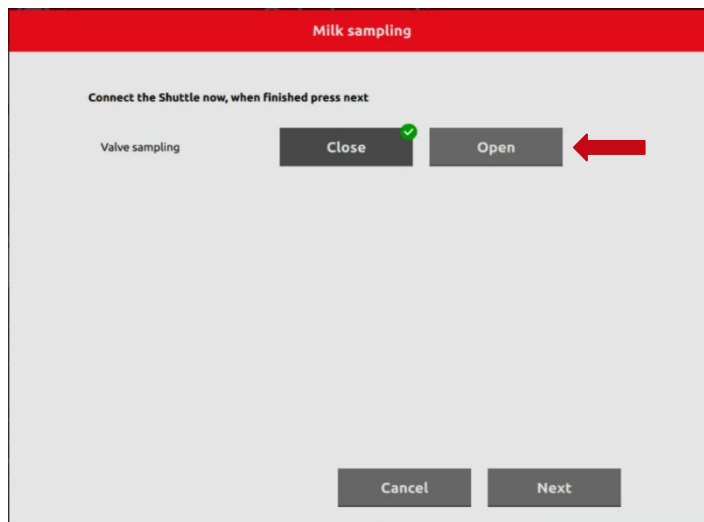

Figure 26. Milk sampling menu
3. On the Menu, Click Open, see the figure 26